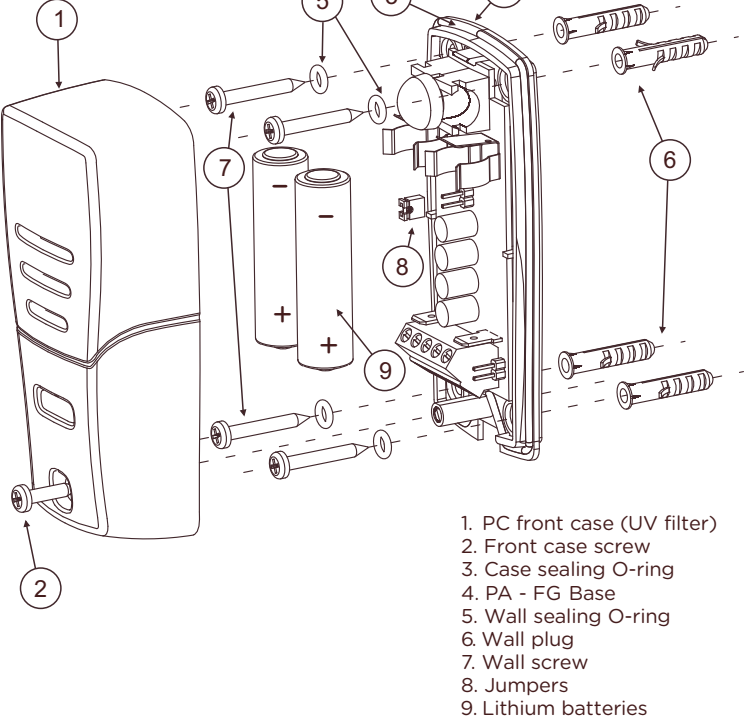

Fig. 7
The emitter will set the frequency modulation to continuous mode when powered with a 12/24V AC/DC power supply, achieving more range regardless of the J2 jumper (Fig. 7).
It is possible to connect an 8K2 safety edge assembled on the mobile gate leaf to the terminals 4 and 5. The emitter checks the edge continuously, interrupting the infrared beam when pressed and activating the security relay in the receiver. If we do not connect the safety edge, Jumper J3 must be connected. See fig. 7.
The emitter is equipped with a safety NC input in terminals 2 and 3 that deactivates the transmission of the infrared beam when that contact is opened, putting the transmitter in standby mode. If we do not connect this input, Jumper J1 (TX) must be connected. See fig. 7.